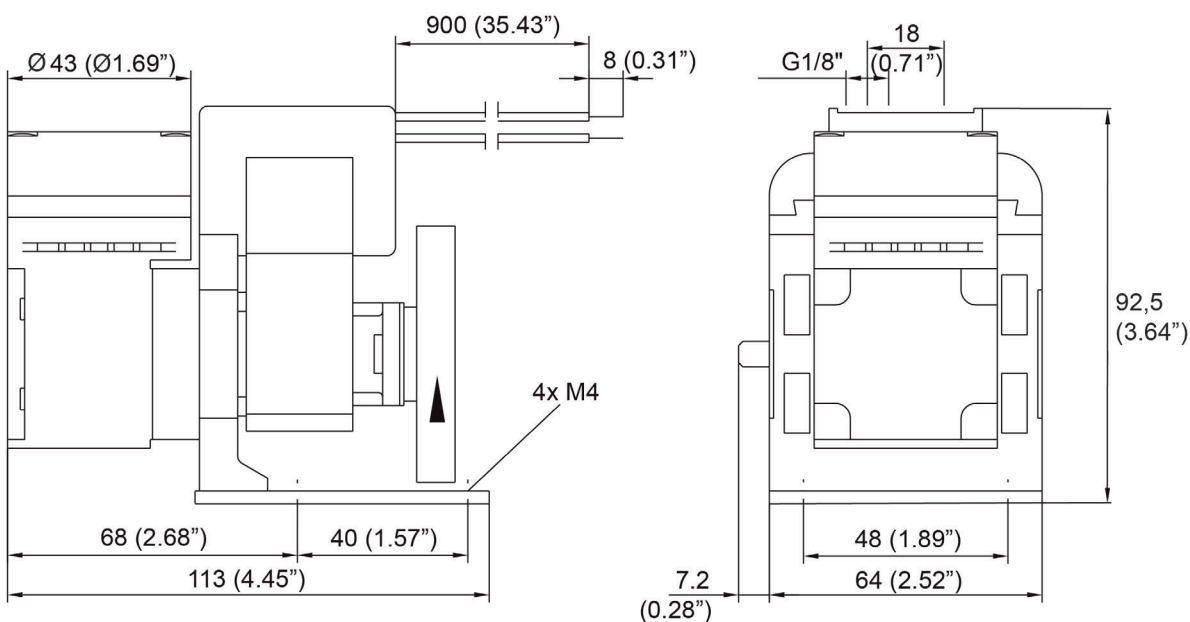
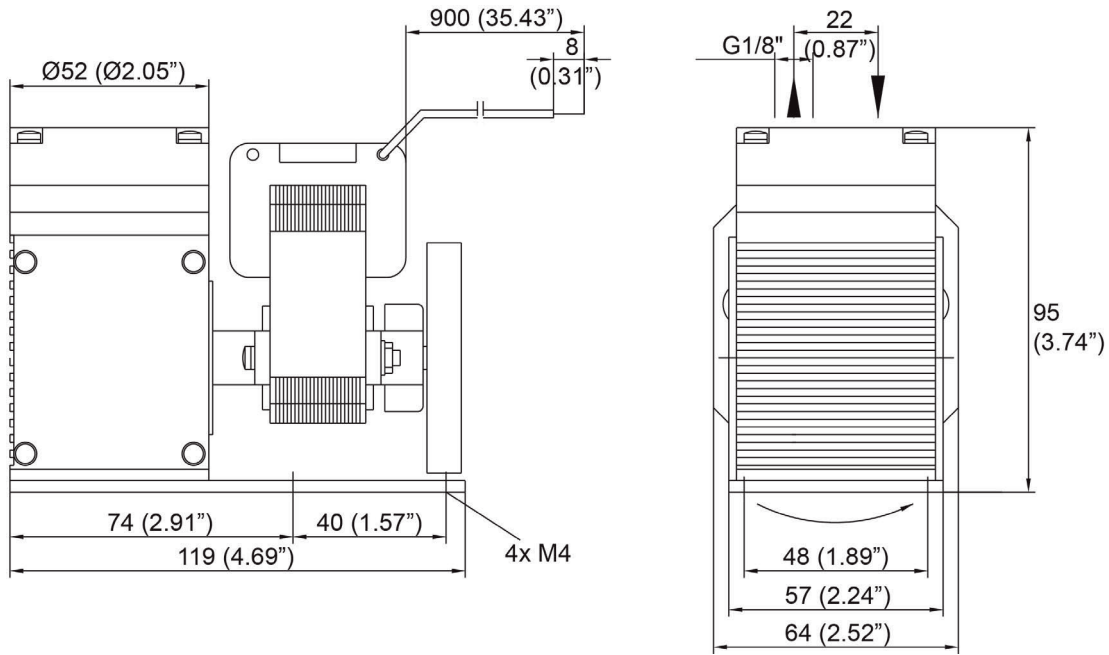

Figure 1 Dimensions (mm) N3/5 KPE
Figure 2 Dimensions (mm) N9 KPE
- Figure 1 and figure 2 show the dimensions of the pumps.